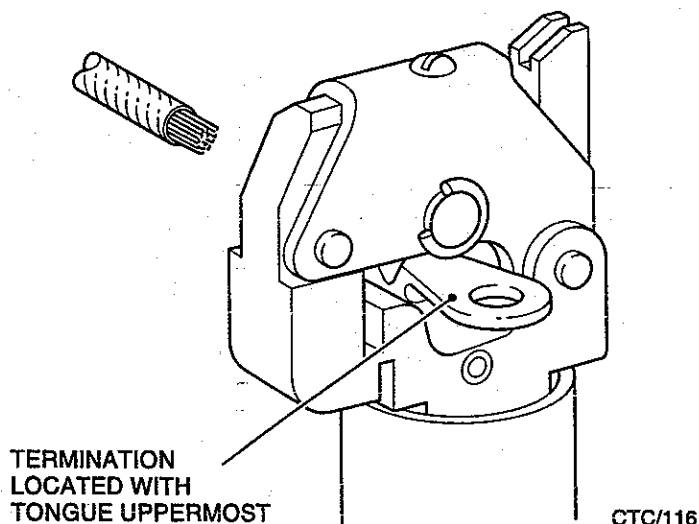

Fig 7 Correct location of termination in hydraulic hand-operated tool
Hydraulic hand-operated tool (see Fig 7)
11.1 Carefully centre the termination between the indenter and the nest (see Fig 7). Note that there is no locator so the position must be judged visually.